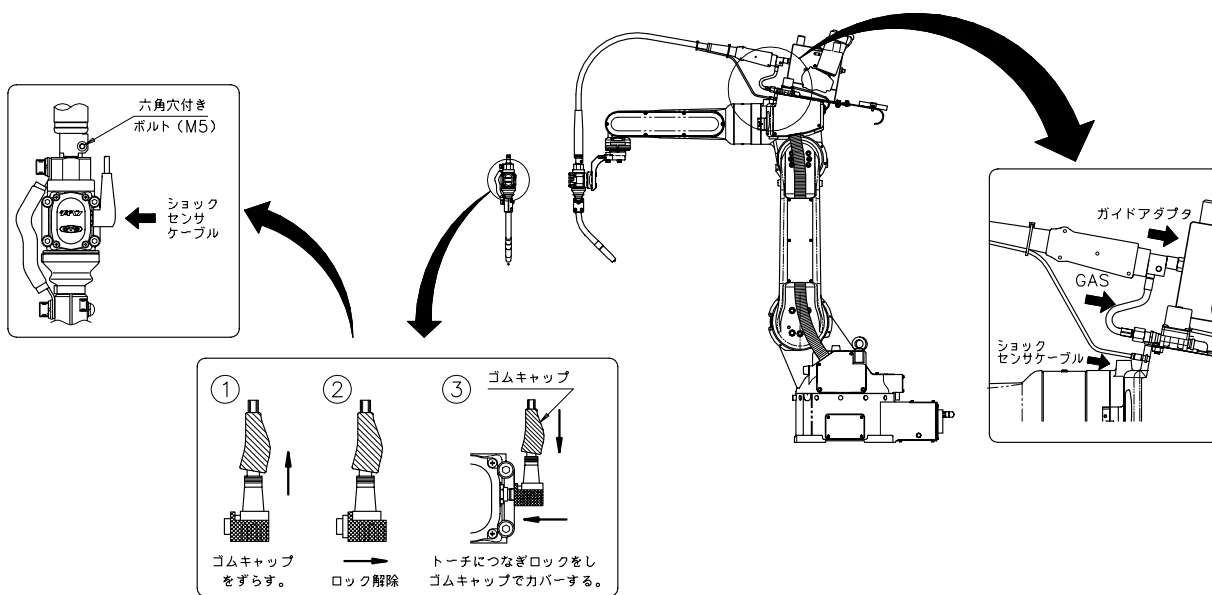
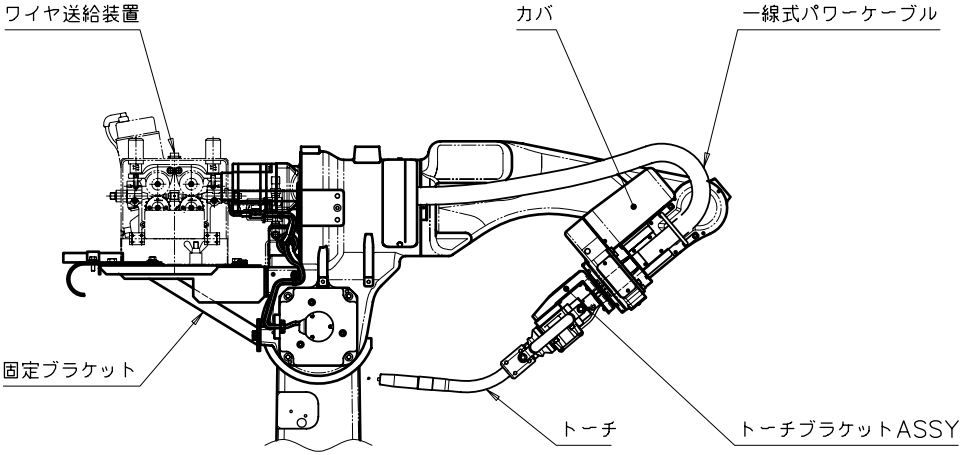

Fig. 4.5 Connection of the coaxial power cable (Except V4AP)
Fig. 4.7 Adjustment of the coaxial power cable
- (1) Mount a torch, wire feeding unit (fixing bracket), and coaxial power cable.
- (2) Operate the 5th axis to the maximum (soft limit) toward the manipulator's inner side as shown in Fig. 4.7.
- (3) Operate the 6th axis to the maximum (soft limit). (Either in the + or – side.)
- (4) Adjust the fixing bracket in the above posture so that the coaxial power cable does not collide with the cover (see Fig. 4.5).